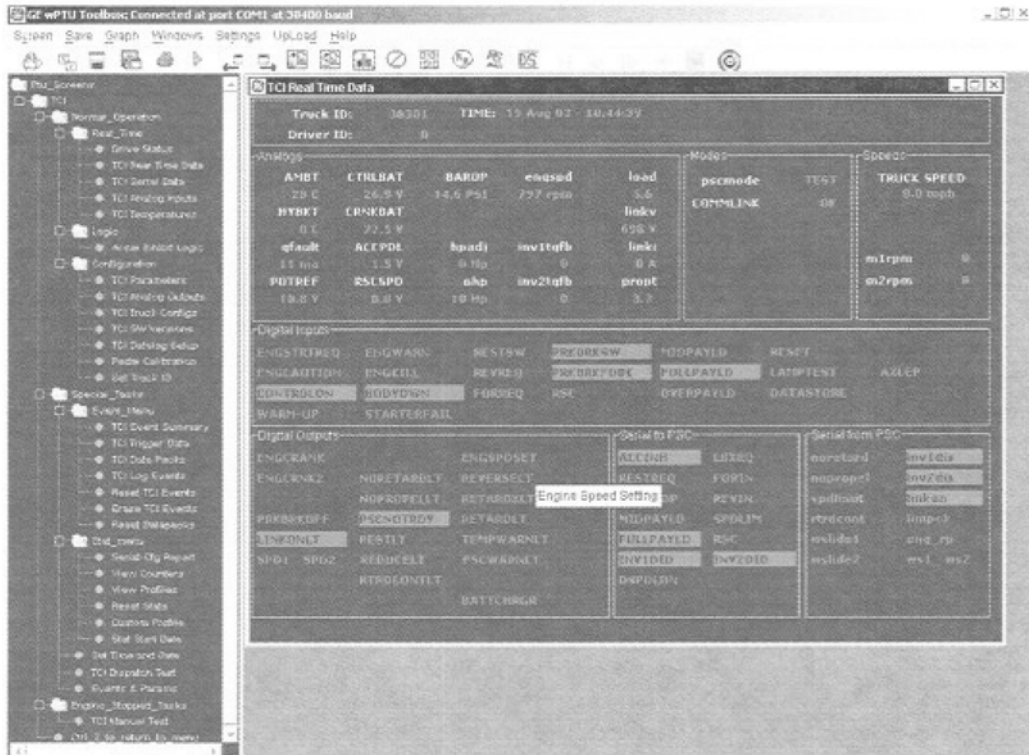

FIGURE 3-15. TCI REAL TIME DATA SCREEN
19. Reinstall tire support chains (2 & 3, Figure 3-15).
22. Remove tire support chains (2 & 3, Figure 3-15).
25. Rotate the wheel hub to position the fill plug (4) at the 12 o'clock position. Remove the fill plug. Add SAE 80W-90 oil to the wheel hub assembly using the fill hole. When properly filled, the floating ball in the sight gauge will be at its highest position. The wheel hub holds approximately 21 liters (5.5 gal) of oil. Replace fill plug.
26. Remove suspension support chain (1, Figure 3-15) if installed, and all cribbing. Lower truck chassis so tire is on the ground.